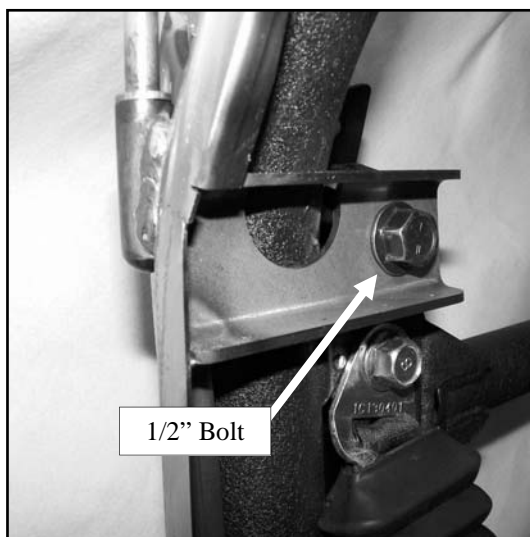

Fig. 6.7 (View of rear right corner)
6.7 See fig. 6.7. Torque the 1/2" bolt to 47 ft.-lbs. (64 N-m) at this time.